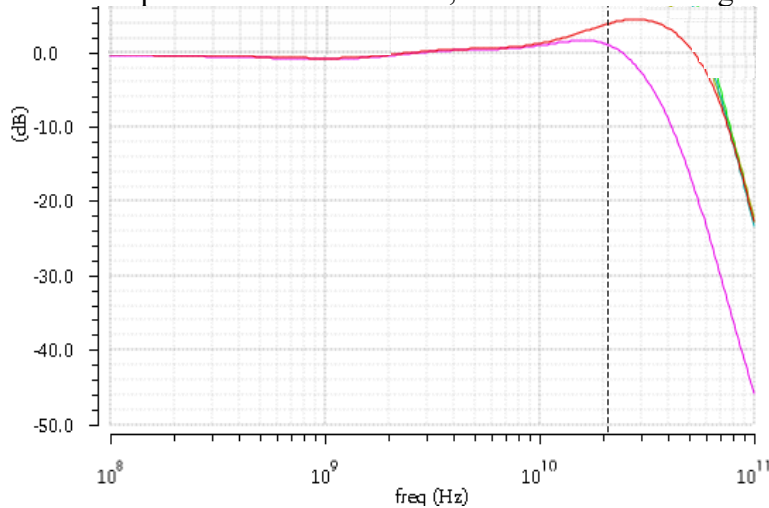

Fig. 4. BW Control Characteristics
Additionally, the path's bandwidth (BW) can be also adjusted using EF controls as shown by the red and magenta curves in Fig. 4 that are plotted for the Min Pole, and Min Zero setting.